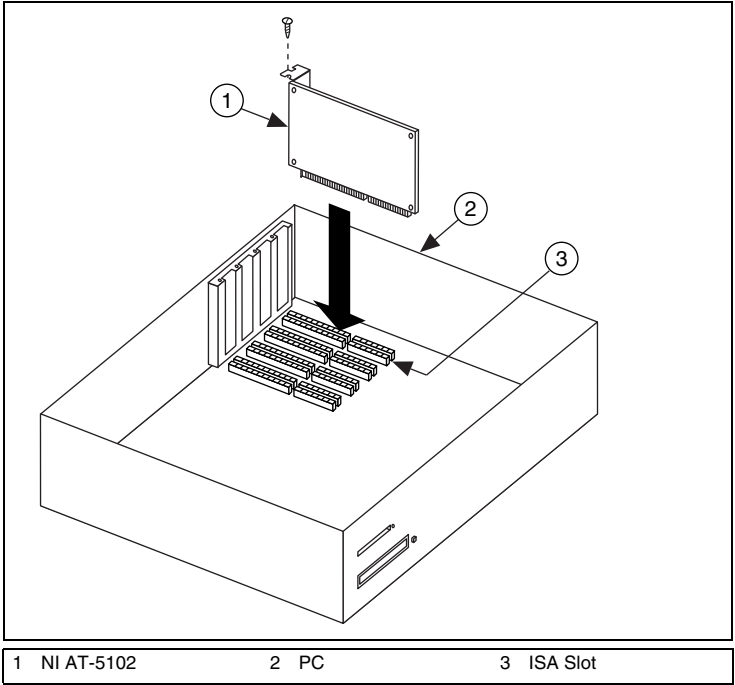

Figure 6. NI AT-5102 Installation
3. Insert the NI AT-5102 into an open ISA slot as shown in Figure 6.